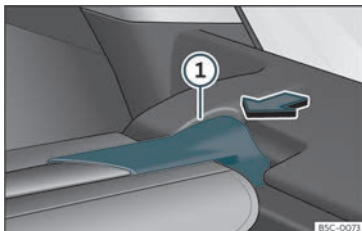

Fig. 110 In the luggage compartment: removing the shelf.
- Press the rear shelf support >>> **Fig. 110** ① in the direction of the arrow.
- Engage the support of the rear shelf >>> **Fig. 110** ① into the housing on the other side.